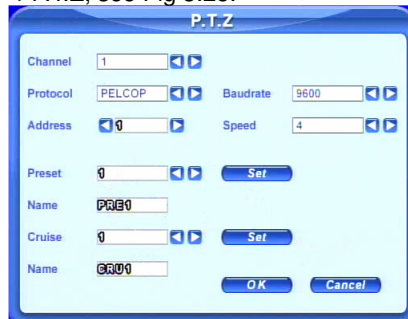

Fig 3.25 PTZ Setup
STEP1 Press right mouse to show the control bar. Enter Menu---->System--->P.T.Z, see Fig 3.25.